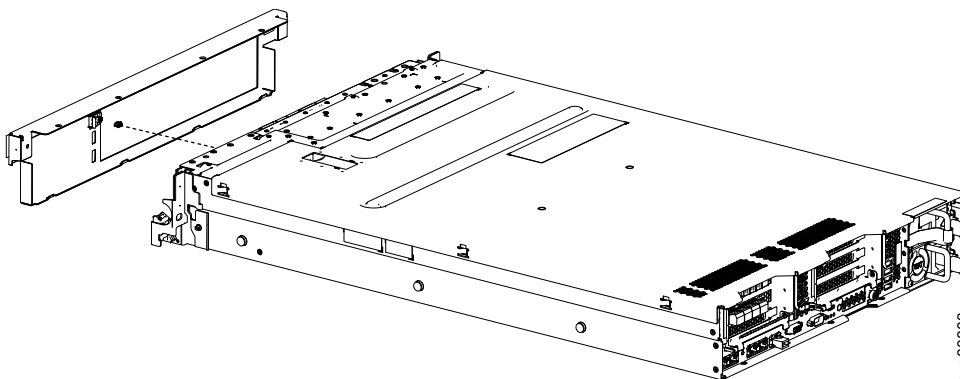

Figure 91. Connecting the LED cable to the back of the bezel assembly
1. Connect the LED cable to the LED PCB on the back of the bezel assembly as shown in Figure 91.